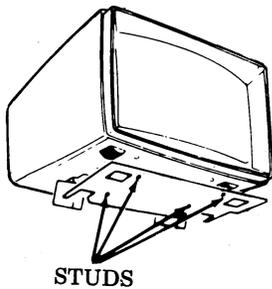

Fig. 89
- ⑯ Open top of outside box, remove the four corner pads.
- ⑰ Open top of inner box, then open top on innermost box.
- ⑱ Unpack the display base, peel off any protective plastic film from top of display base. Remove any adhesive remaining on the base.
- ⑲ Remove innermost box, open top of box underneath.
- ⑳ Remove packing details from box. Find plastic bottom plate (Fig. 89).
③ Install the plastic bottom plate (packed separately). It snaps on with four studs that are part of the bottom plate. See Fig. 89.